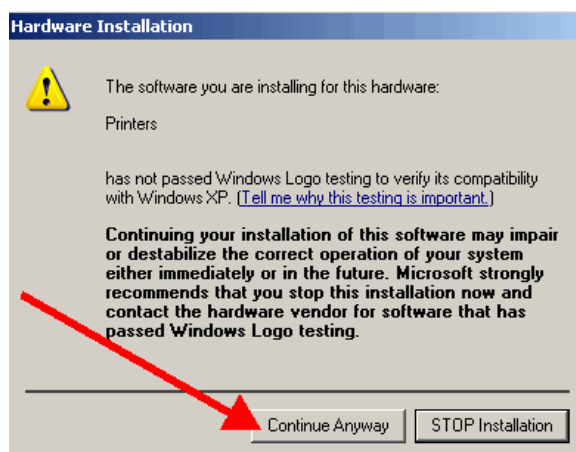

Figure 23
27. Choose Continue Anyway to the Windows Certification warning.(Figure 23)